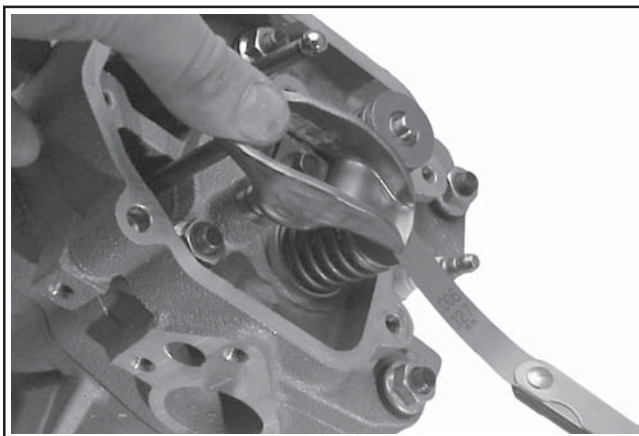

Figure 11-38. Checking for 0.001 in. - 0.010 in. Clearance.
15. Hold down the push rod end of the rocker arm (step 9). Using a feeler gauge, check that there is **0.03-0.3 mm (0.001-0.010 in.)** clearance between the rocker arm and the end of the valve. See Figure 11-38.
15. Hold down the push rod end of the rocker arm (step 9). Using a feeler gauge, check that there is **0.03-0.3 mm (0.001 to 0.010 in.)** clearance between the rocker arm and the end of the valve. See Figure 11-38.